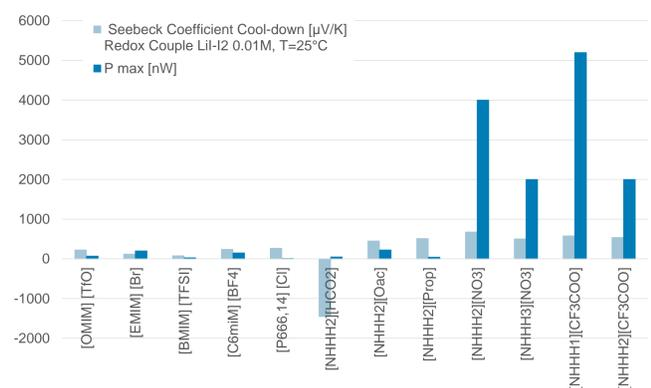

Figure 5: Comparison power demonstrator and Seebeck coefficients for different Ionic liquids.
The magnitude of the Seebeck effect is the response to a temperature difference between two electrodes where a voltage is induced. The Seebeck coefficient describes the thermoelectrical power. Positive and negative Seebeck coefficients (dV/dT) can be obtained (Figure 5), depending on the molecular structure and the viscosity of the ILs. To maximize the thermoelectric performance (Z), lower thermal conductivity (λ) and higher electrical conductivity (σ) are needed.